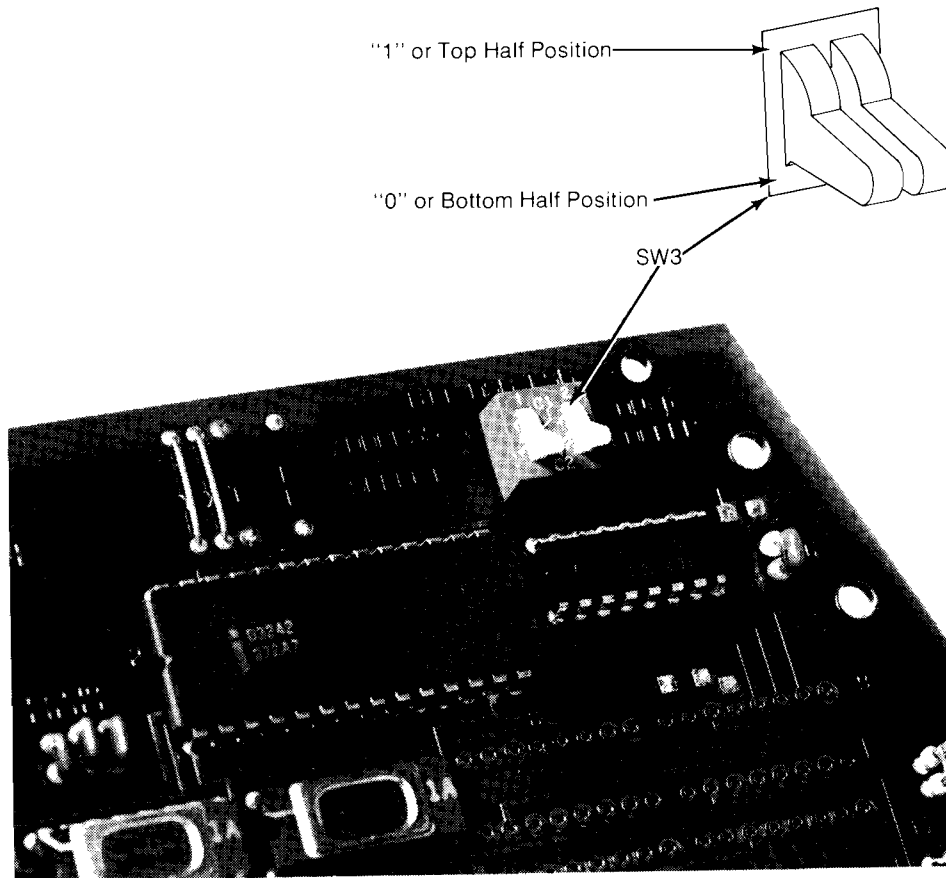

Figure 1-13. SW3 Settings for A24
On 32K byte assemblies, which contain only a half-block, SW3 has to be set to designate the top or bottom half of the block. Blocks are filled from the top of the block, down. SW3 is positioned to either the top half (1) or the bottom half (0) (see Figure 1-13):